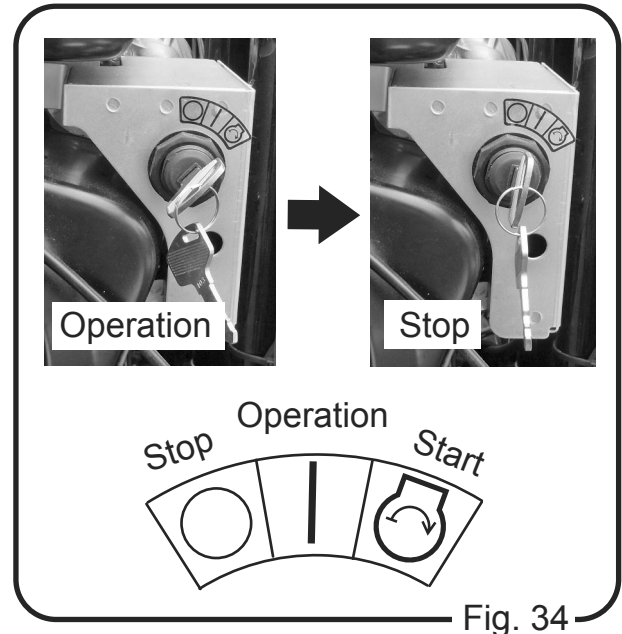

Fig. 34
2. Return the throttle lever to lower the engine revolution. Run the engine for 2 to 3 minutes. After the engine temperature is dropped, stop the key (key switch). Even when emergency stop was used with the stop switch, always stop the key (key switch.) (Fig. 34)
3. Turn the stop switch to OFF (0) side.